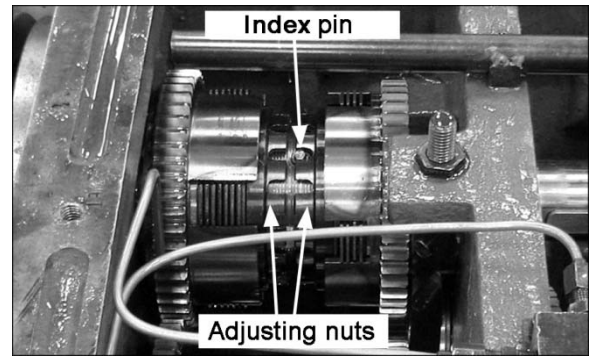

Figure 43 – Spindle Clutch Adjustment
- Use a screwdriver to push in the index pin (Figures 43 and 44). The pin is spring loaded.